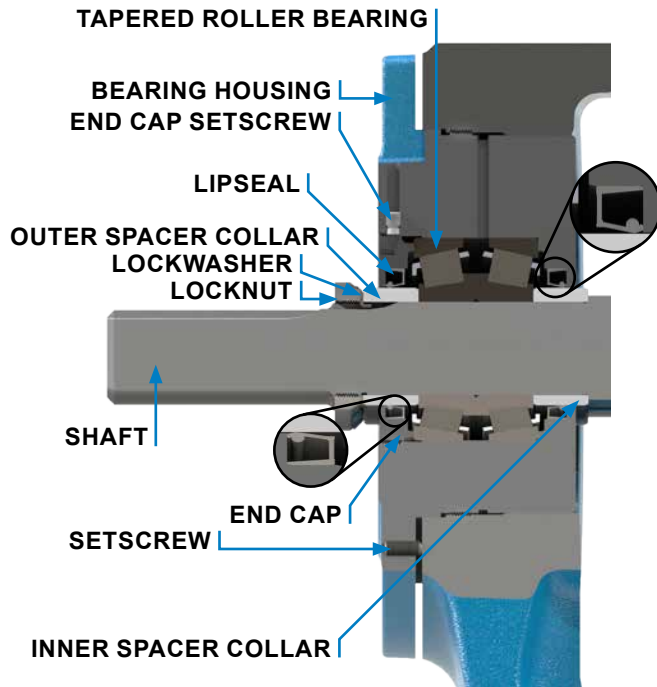

FIGURE 5
2. Loosen two set screws in the face of the bearing housing (Item 7), see **Figure 5**, and turn the bearing housing CCW to remove the bearing housing assembly from the bracket (Item 27).
7. Place lockwasher and locknut on shaft, see **Figure 5** for orientation. Tighten locknut per **Table 1** and bend one tang of lockwasher into slot of locknut.
4. Loosen two set screws in the face of the bearing housing, see Figure 5, and turn the bearing housing CCW to remove the bearing housing assembly from the bracket.
8. Loosen two radial setscrews in flange of bearing housing. With a spanner wrench remove the outer end cap (Item 3) with lip seal (Item 5) and outer bearing spacer collar (Item 4) see Figure 5.
7. If damaged, replace and install lip seal into bearing housing. See Figure 5 for lip seal orientation.
8. Pack tapered roller bearings with grease and press or push bearings into housing with large end of inner races together. It is possible to install bearings incorrectly. For proper assembly see Figure 5.
9. If damaged, replace and install the lip seal in the end cap. See Figure 5 for lip seal orientation. Thread the end cap into the bearing housing along with outer bearing spacer collar and tighten against the bearing.
10. Lock end cap in place with two end cap setscrews in the flange of the bearing housing, see Figure 5.
2. Loosen the two set screws in the outer face of the bearing housing, see Figure 5, Page 6 and turn the thrust bearing assembly clockwise until it can no longer be turned by hand. Turn the bearing housing counter-clockwise until the rotor and shaft can be turned by hand, but with a noticeable drag.